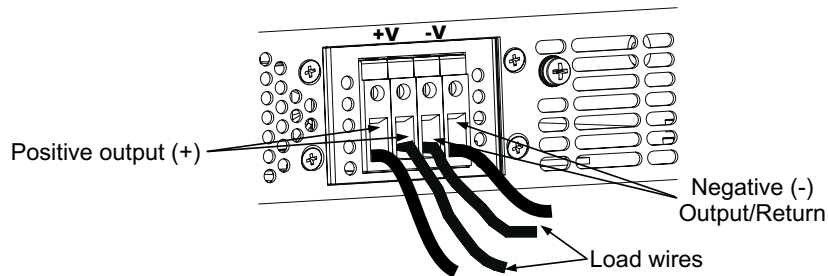

Fig.3-7: Load wires connection to the output connector
3. Insert the stripped wires into the terminal and tighten the terminal screw securely(see Fig.3-7)